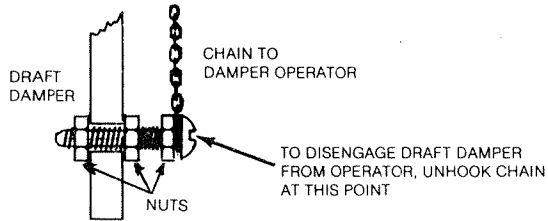

Fig. 5 — Attachment of chain linkage to draft damper
4. drill a 5 mm (3/16") hole in the draft damper near the bottom edge. Fasten the chain to the damper using the bolt and nuts provided as illustrated in Fig. 5. Hook the other end of the chain through one of the holes on the lower segment of the actuator wheel which will provide the maximum lift, or vertical chain movement. The exact length of the chain used must be determined by the location of the damper operator with respect to the draft damper being controlled, keeping in mind that the draft damper must be fully closed, and the drive chain slack, when the operator is de-energized and has returned to its fully closed position.